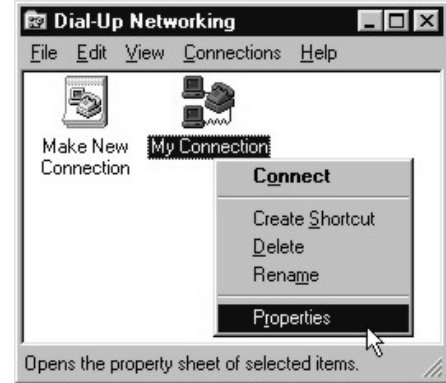

Figure 17 - Connection Properties
17. From the "Dial-Up Networking" window, right click on the connection that was just setup. (Fig. 17)